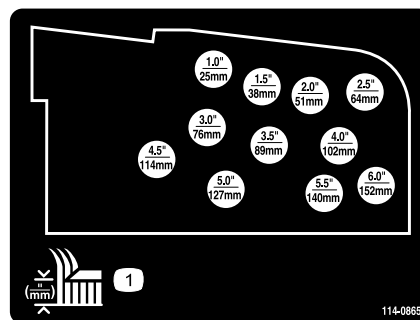

Figure 26
6. Mount the height-of-cut chains to the desired height-of-cut hole (Figure 26) with the clevis pin and hairpin cotter.